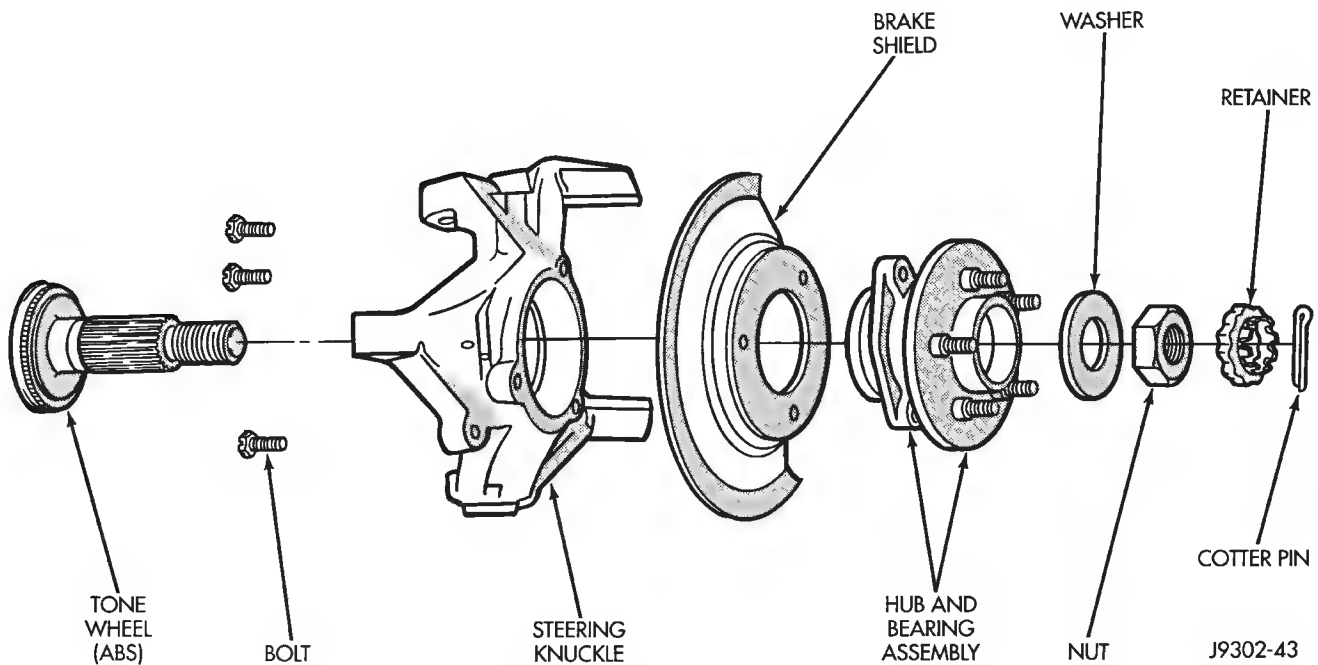

Fig. 6 Hub, Knuckle and Axle Shaft
- (1) Raise and support the vehicle.
- (2) Remove the wheel and tire assembly.
- (3) Remove the brake components from the axle, refer to Group 5, Brakes.
- (4) Remove the cotter pin, nut retainer and axle hub nut (Fig. 6).
- (5) Remove the hub to knuckle bolts (Fig. 6). Remove the hub from the steering knuckle and axle shaft.
- (6) Remove the disc brake rotor shield from the bearing carrier (Fig. 6).
- (7) On disconnect axles, remove vacuum shift motor housing. Refer to Vacuum Disconnect Axle in this section.
- (8) Remove the axle shaft from the housing. **Avoid damaging the axle shaft oil seals in the differential.**
- (1) Thoroughly clean the axle shaft (Fig. 6) and apply a thin film of Mopar Wheel Bearing Grease to the shaft splines, seal contact surface, hub bore.
- (2) Install the axle shaft into the housing and differential side gears. Avoid damaging the axle shaft oil seals in the differential.
- (3) Install the hub bearing and brake dust shield to the knuckle.
- (4) Install the hub to knuckle bolts and tighten to 102 N·m (75 ft. lbs.) torque.
- (5) Install the hub washer and nut. Tighten the hub nut to 237 N·m (175 ft. lbs.) torque. Install the nut retainer and a new cotter pin (Fig. 6).
- (6) Install the brake components, refer to Group 5, Brakes.
- (7) Install the wheel and tire assembly.
- (8) Remove support and lower the vehicle.